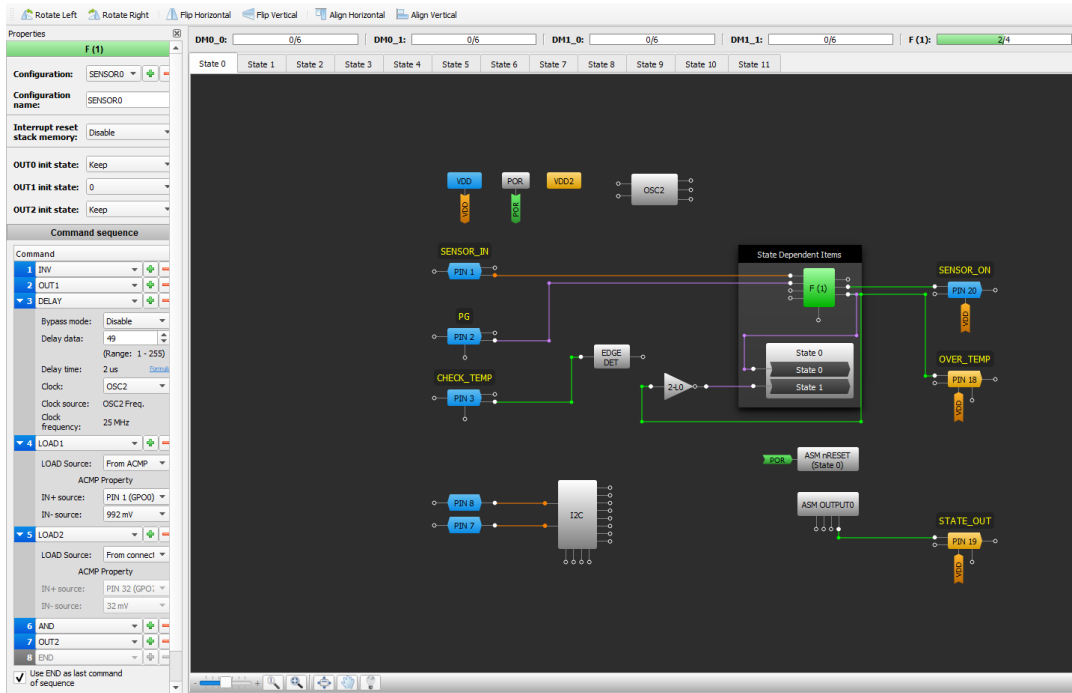
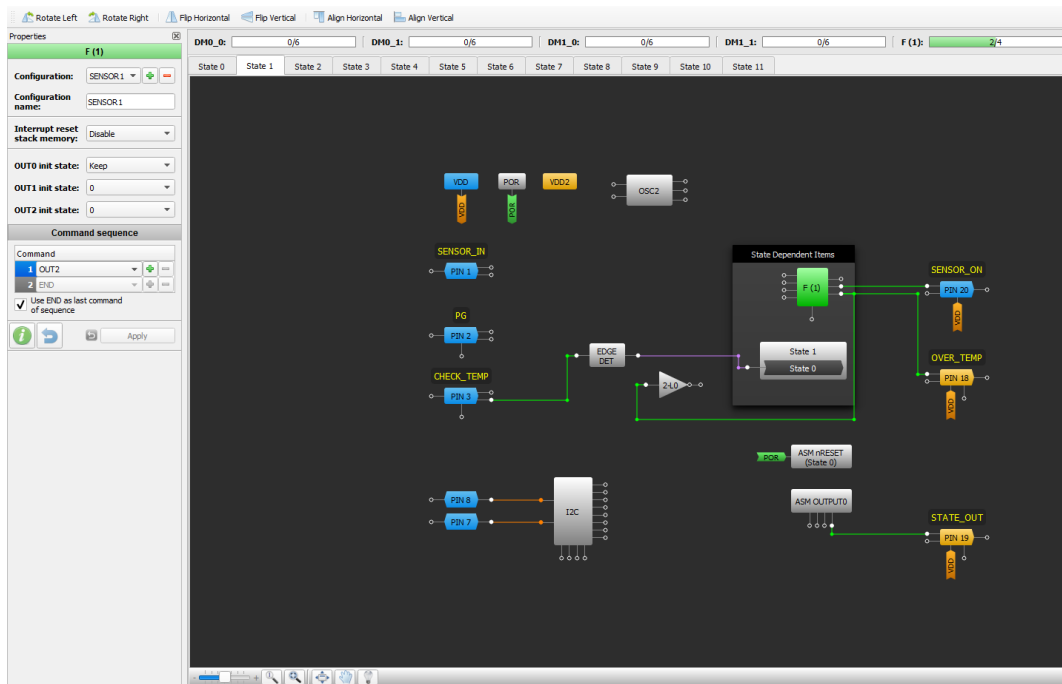
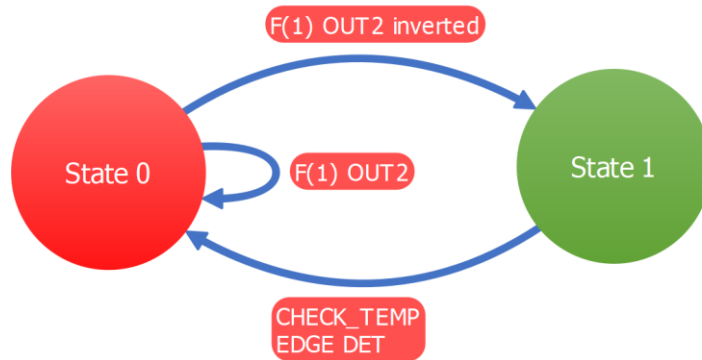

Figure 6: Example #1 Schematic, State 0
Figure 7: Example #1 Schematic, State 1
Figure 8: ASM Diagram
Example #1 of the datasheet provides an example using the F(1) block to detect the voltage of a sensor when the state changes in the ASM (Figure 5). OUT1 is connected to PIN #20 (SENSOR\_ON) and OUT2 is connected to PIN #18 (OVER\_TEMP). The delay on command 3 is defined as 2 μs. LOAD 1's ACMP IN+ is connected to PIN#1 (SENSOR\_IN) and has a threshold of 992 mV. LOAD 2 is connected to PIN #2 (PG). See Figure 6 and Figure 7 for a view of the schematic in GreenPAK Designer. See Figure 8 and Figure 9 for a view of the ASM settings.